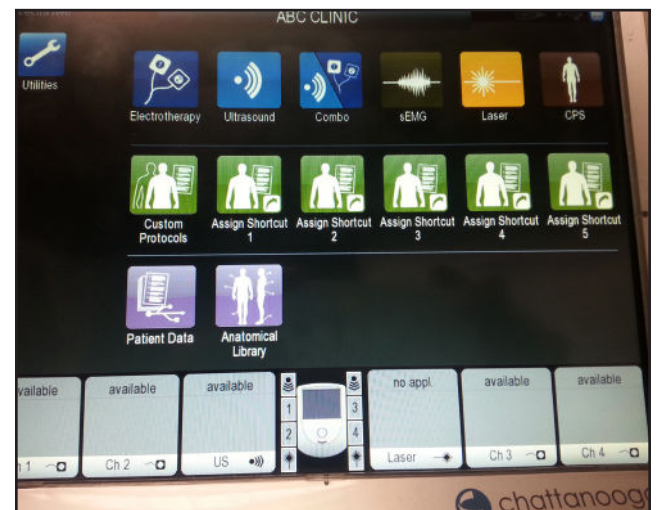

FIGURE 2
8. Rotate Intensity Dial clockwise until the appropriate "Watts" is displayed per Figure 2.